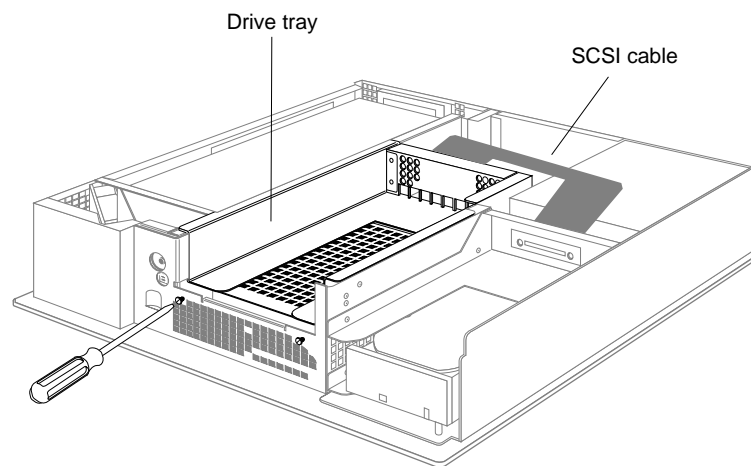

Figure 3-13 Loosening the Screws on the 5-1/4" Drive Tray
2. Disconnect the SCSI cable from the connector on the back of the 5-1/4" drive tray, as shown in Figure 3-13.